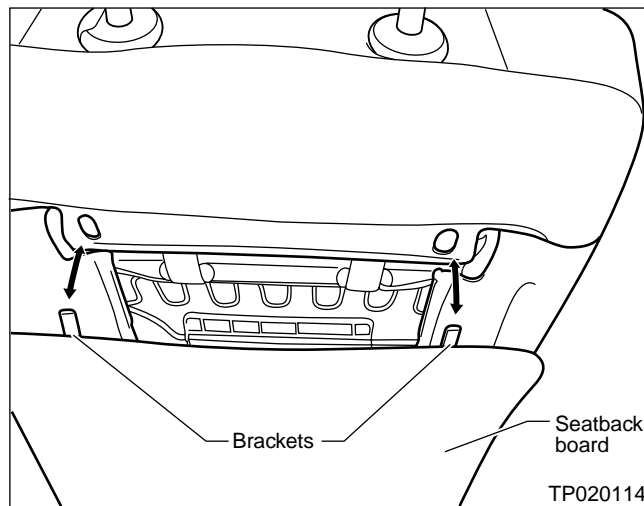

Figure 6
6. After all attaching clips are released, the brackets at the top of the seatback board will slide out by pulling down on the seatback board (see figure 6).
8. First, align the brackets at the top of the seatback board with the holes in the seatback, slide the brackets into place by pushing the seatback board up (see figure 6).